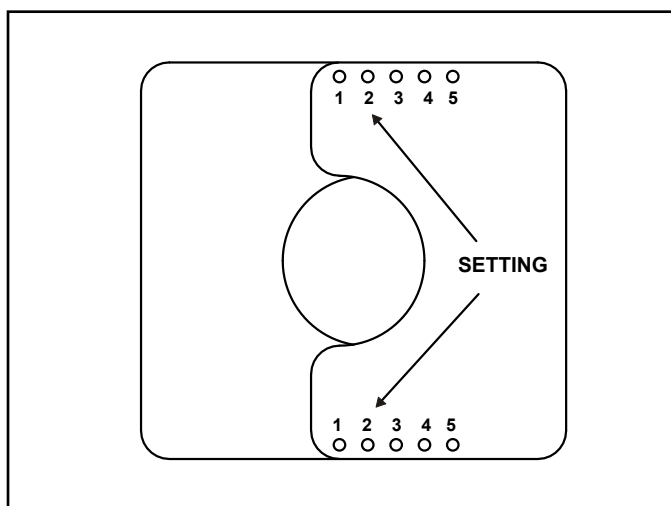

Figure 4.11 Set the Exhaust Restrictor
3. The setting for MEZZO36-B, MEZZO48-B, MEZZO60-B and MEZZO72-B is 2-2. Align the holes marked "2" on the numbered exhaust restrictor piece with the hole on the other exhaust restrictor piece. See Figure 4.11. Align the exhaust restrictor pieces with the pilot holes in the inner firebox chamber. Use two 1/2 inch self-piercing screws to secure vent restrictor to firebox heat shield.
2. The setting for MEZZO36ST-B, MEZZO48ST-B, MEZZO60ST-B, and MEZZO72ST-B is a 2.5 inch setting, or 2-2. Align the holes marked "2" on the numbered exhaust restrictor piece with the hole on the other exhaust restrictor piece. See Figure 4.11. Center the exhaust restrictor on the vent and secure in place with two 1/2 inch self-piercing screws.